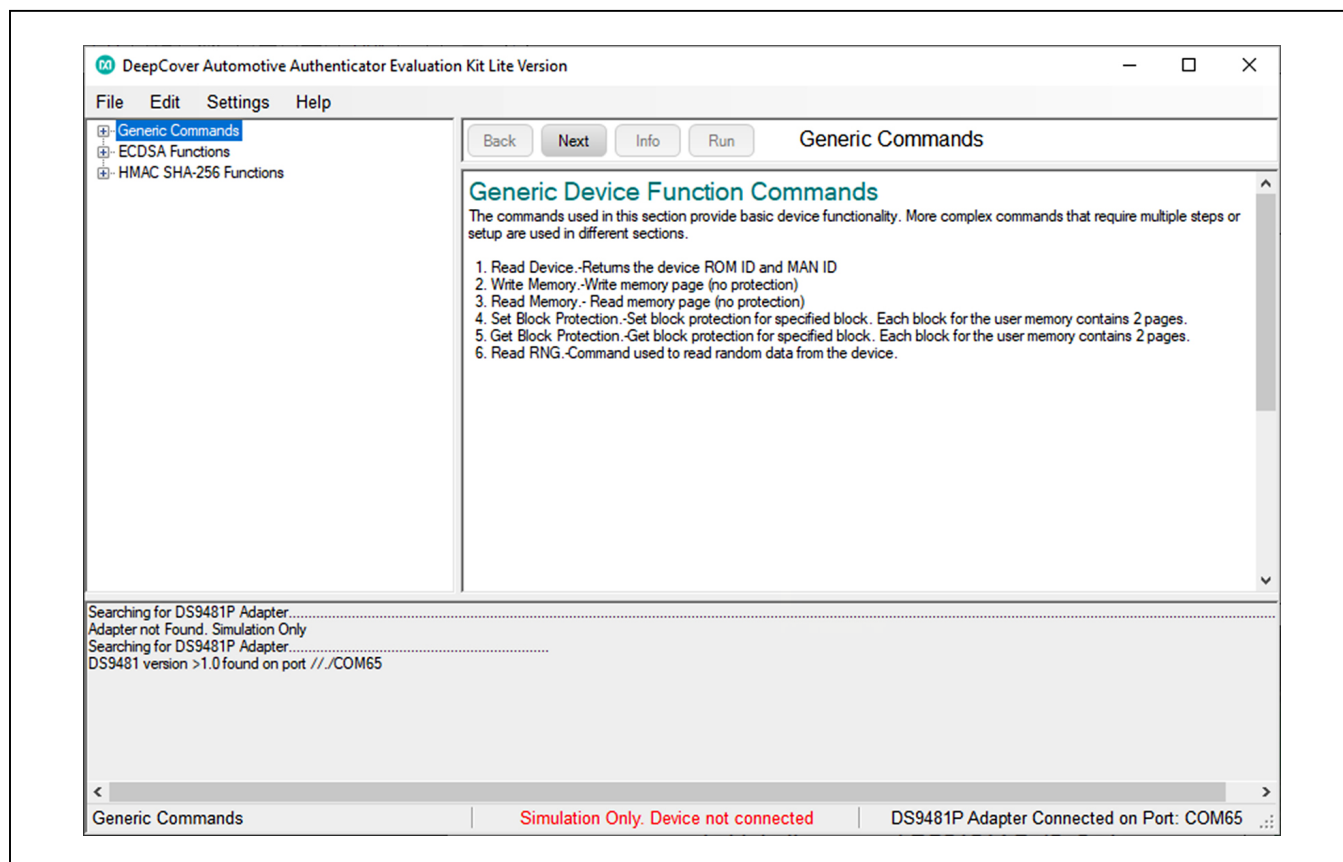

Figure 8. DS2478 EV Kit Program (Default View Upon Opening)
- 7) The DS2478 EV kit program opens and automatically connects to the COM port. This is shown in the status bar shown in Figure 8.